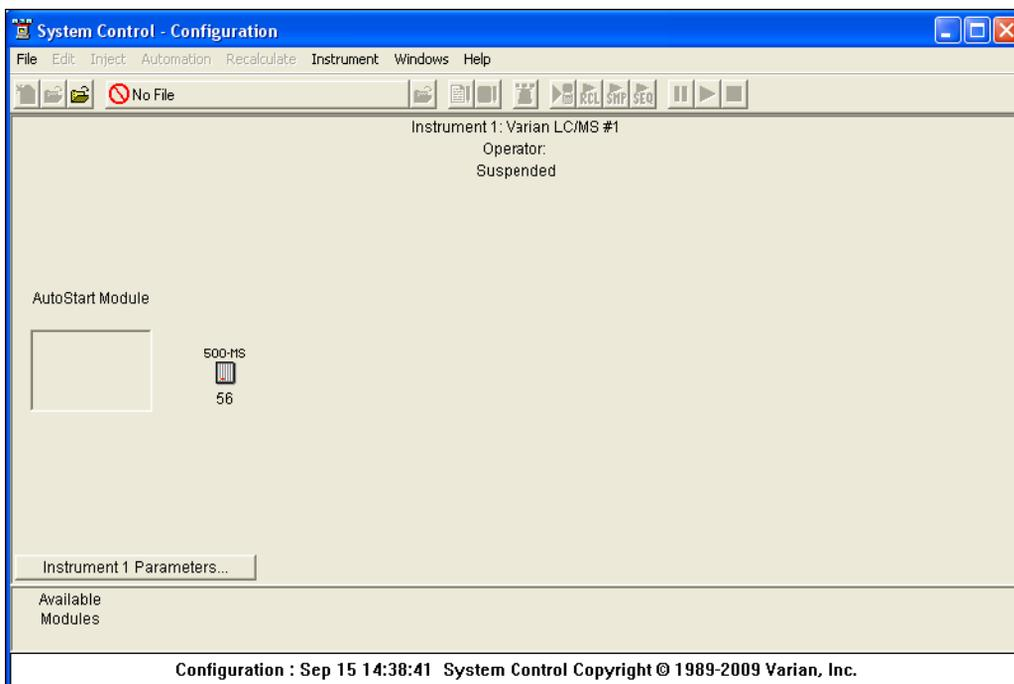

Figure 2 MS Workstation Configuration Window with empty AutoStart Module box
- Open the MS Workstation Configuration Window and make sure that the **500-MS** icon is *not* in the AutoStart Module box. See for Figure 2.